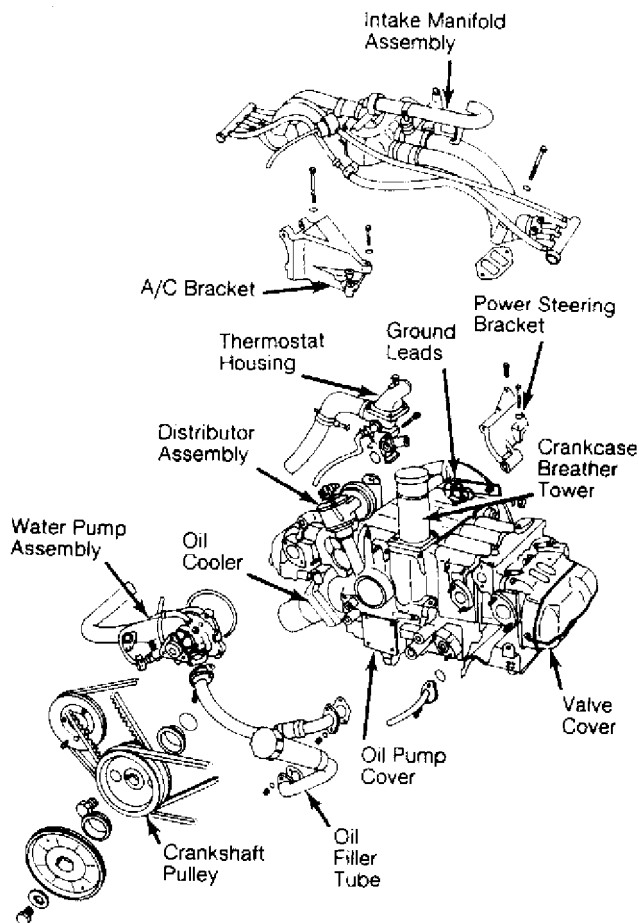

Fig. 2: Identifying External Engine Components
3) On all models, mark and disconnect coil lead and wiring plug at distributor, wiring at oxygen sensor, oil pressure switch, temperature sensor and temperature sender. Disconnect wiring to coolant level warning switch, located in expansion tank. Mark and disconnect ground leads on top left side of crankcase. See Fig. 2.
Procedures for removal and installation are not available. Remove intake manifold and throttle valve as an assembly. See Fig. 2. Replace all gaskets at installation.